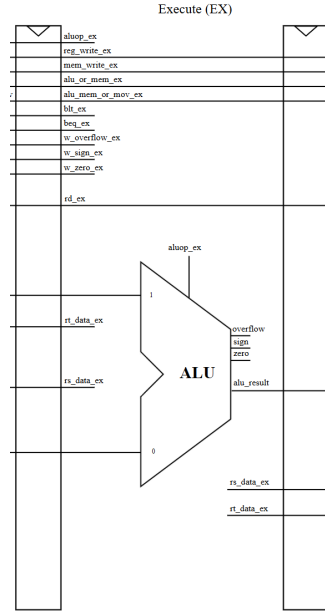

Figure 4: The Execute (EX) stage of the architecture
Execute (EX), despite being where instructions are actually executed, is just the *ALU*. The datapath of the *EX* stage is shown in Figure 4.